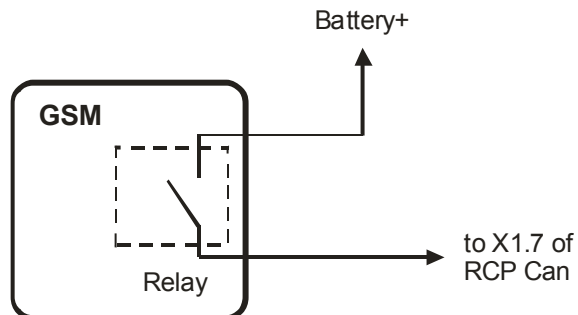

Figure 9
- Some GSM modules can control an additional device through the inner relay. They may be connected to RCP Can by the scheme at the fig.9